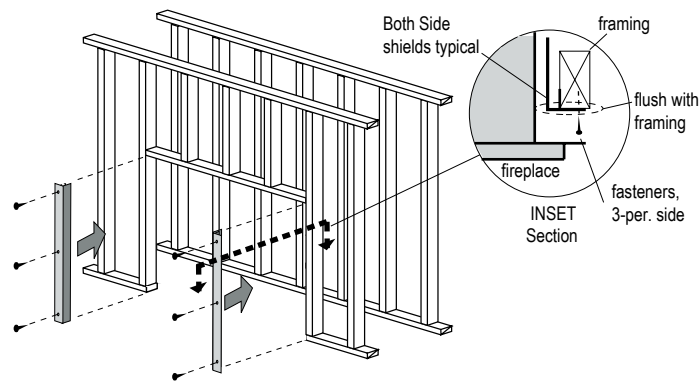

Figure 8. Combustible Framing Side Heat Shield L52FS01x2, (two 2-pcs).
NOTE: The shields must be installed as shown in **Figures 8 - 8b**.
Step 1. Fasten the two Side shield's (L52FS01x2) first, and ensure they are fastened in place as shown. These are installed with the Wide flanges facing the center of the fireplace opening, and the shallow flange toward inside of room. These are also fastened with nails or screws, flush with framing as shown in **Figure 8** and **Inset**.